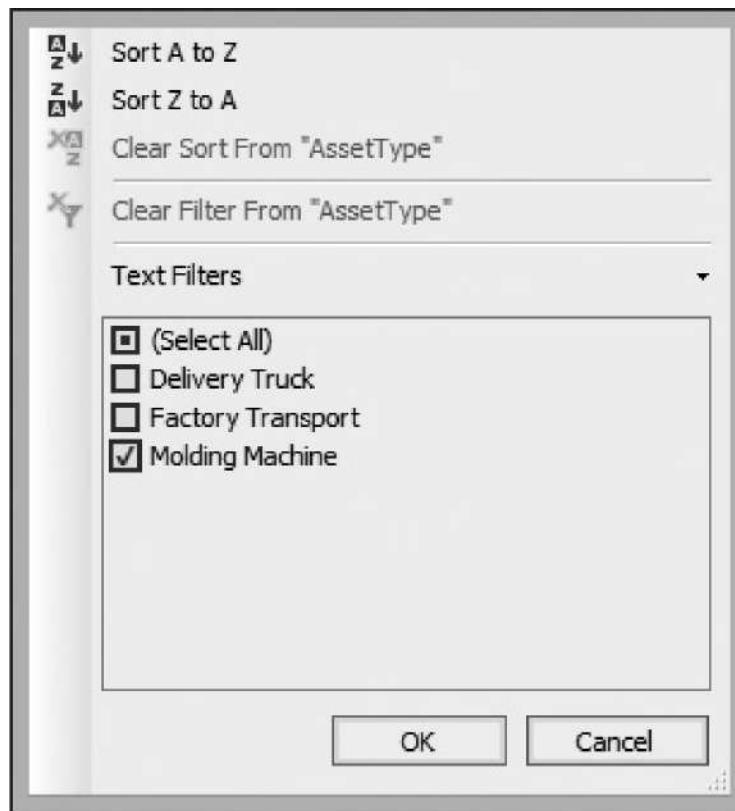

Figure 9-24 The sorting and filtering menu box
16. Check the Molding Machine entry in the Text Filters area. Only records with a value of “Molding Machine” in the AssetType column will be imported for this table. The sorting and filtering menu box appears as in Figure 9-24.